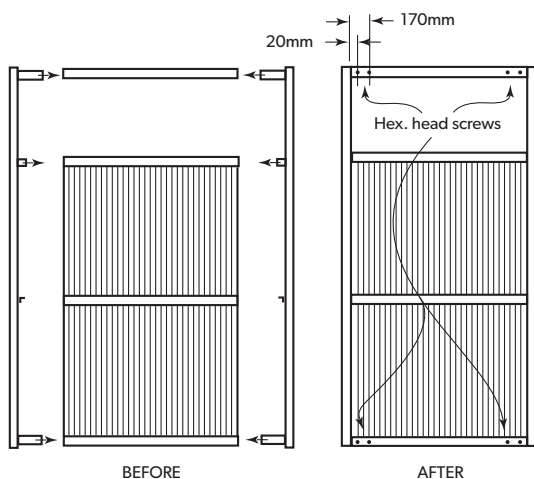

Figure 23.3
3. Using tin snips, notch the four corners. The top and bottom notches are different (Figure 23.3). Lower top rail and gate lattice.
3. If your gate includes a 'PLUS Option' (lattice or slats), mark the position of the two lattice gate clips. Fasten the clips to the stiles using two hex. head screws #10-16x16 for each (Figure 23.3).
4. Mark the position of the two centre rail clips, with the inner edge of the clip 2mm from the centreline of the stile, and fasten them to the stiles using a hex. head screw #10-16x16 for each (Figure 23.3).